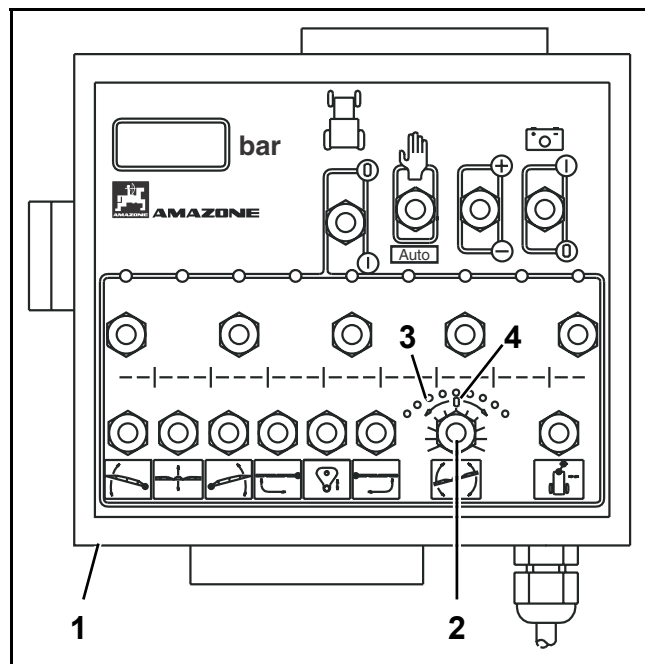

Fig. 91
The central diode (Fig. 91/4) represents the "0"-Position of the boom. When the boom is set parallel to the sprayer frame and another than the central diode lightens, a readjustment of the "0-position" becomes necessary.
- Align booms parallel to the sprayer frame by pressing key (Fig. 91/2).